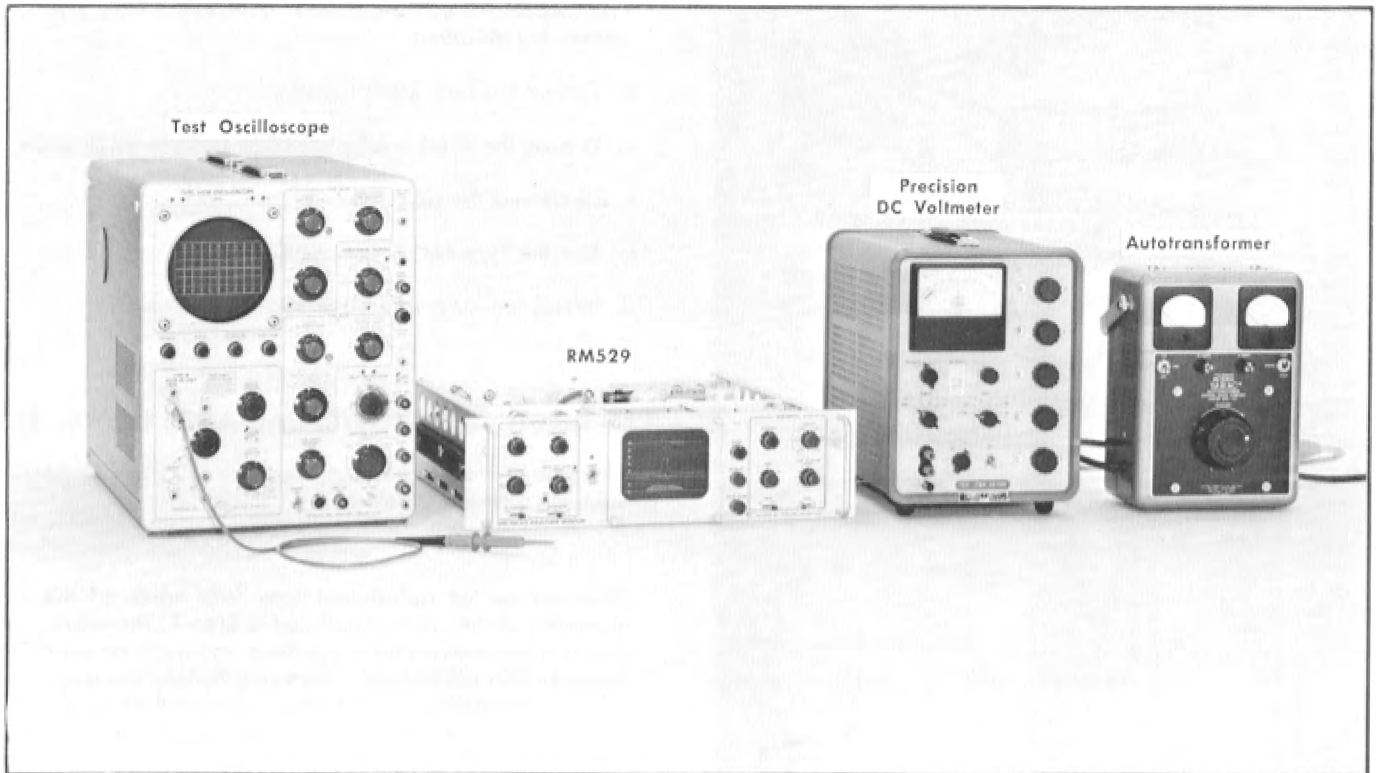

Fig. 6-2. Test equipment setup for steps 1 and 2.
- a. Test equipment setup is shown in Fig. 6-2.
- a. Test equipment setup is as shown in Fig. 6-2.